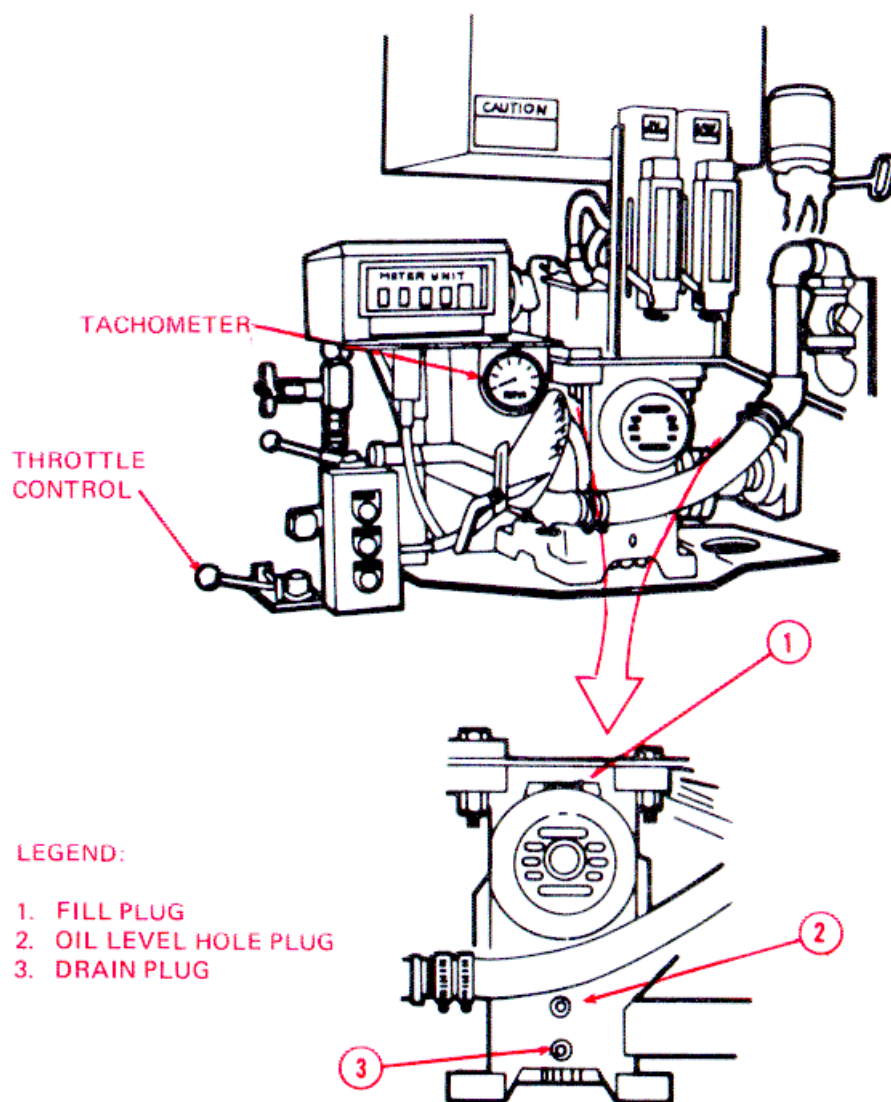

Figure 3-22. Angle Drive Gear Box Service.
- (1) Remove fill plug (1, fig. 3-22).
- (2) Remove drain plug (3) and drain oil using a suitable container.